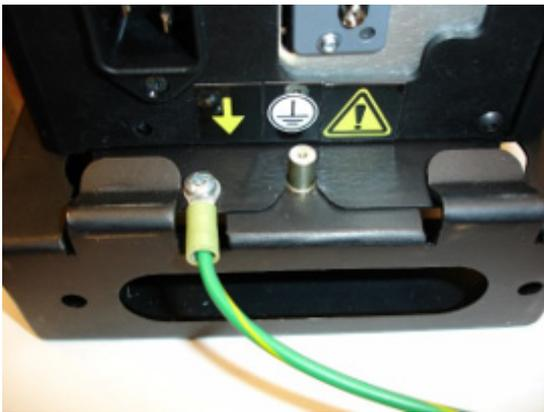

Figure 1 — Redundant Earth Ground Attachment
**Step 4:** The Redundant Earth Ground (required) must be connected to ground using the #14 AWG conductor, a green wire with a yellow stripe. Attach using a #10-14AWG ring terminal and #10 star washer (see Figure 1).